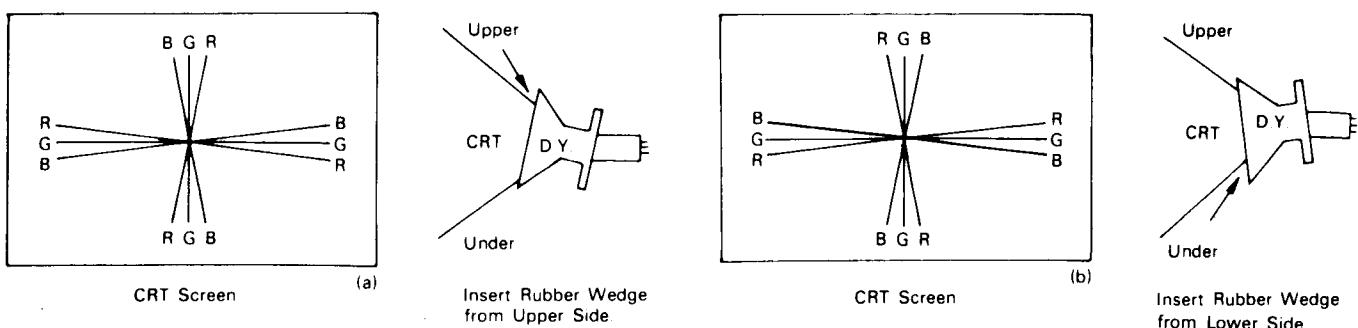

FIGURE 10
PRECISE ADJUSTMENT OF DYNAMIC CONVERGENCE (See Fig. 10 and 11)
2. Insert the temporary wedge and fix Deflection Yoke so as to obtain the best circumference convergence (See Fig. 10 and 11).
- 1) Tilting the angle of the yoke up and down adjusts the crossover of both vertical and horizontal red and blue lines. See Fig. 10 (a) and (b).